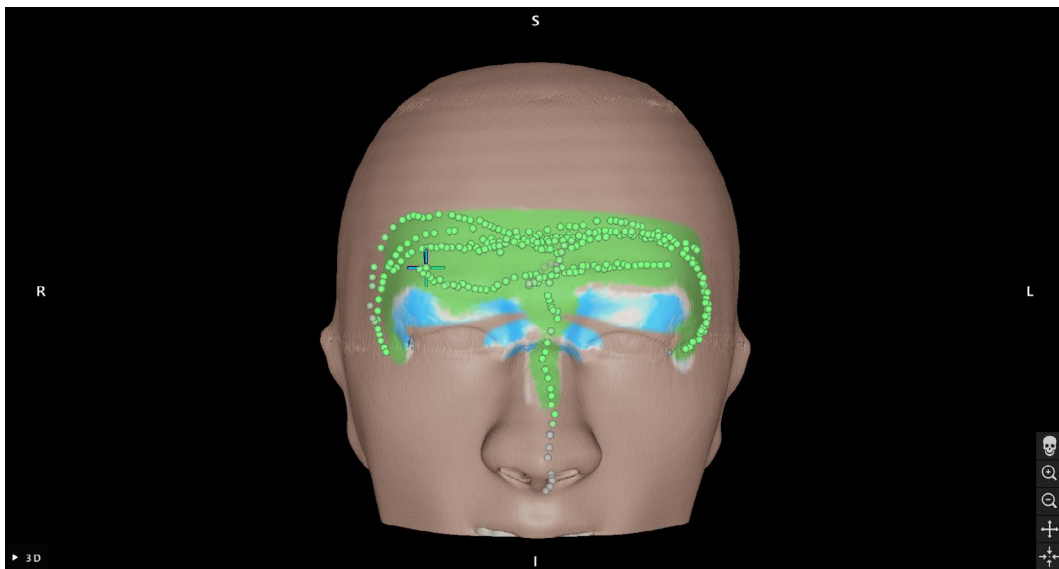

Figure 149 Hold pointer to confirm
- i** – Ideally, the touching curve should be distributed over both halves of the face equally and contain bony areas such as the cheekbone, forehead, and nose bridge. In case of CT data, the 3D view highlights suitable areas in the face with white color. Areas for which sufficient amount of points were collected are colored in green. Refer to Figure 149.